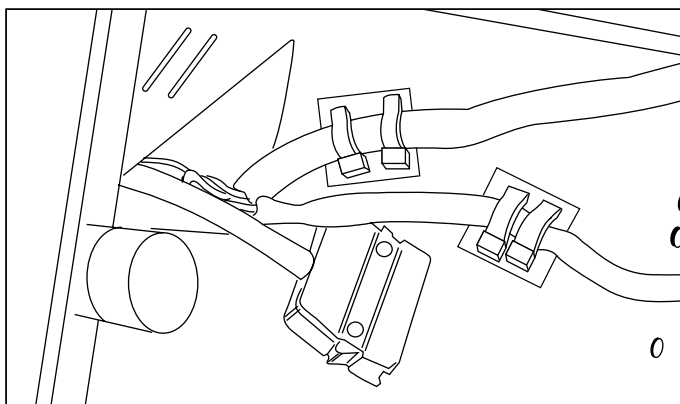

Figure 5-15. Sliding Base Station Cable Through Hole
4. From the bottom of the register, slide the cable retaining clips until the cables are free. From inside the register, pass the base station cable (single end) through the power cable hole. See Figure 5-15.